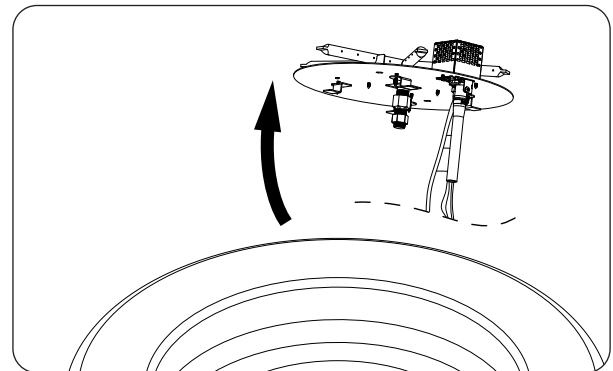

Fig. 30-2 Remove burner
6. Carefully remove the burner and set it off to the side (see Fig 30-2).